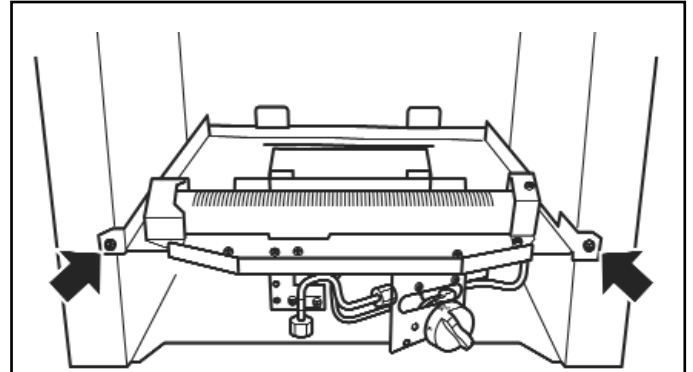

Figure 38. Burner attachment points
4. Detach the burner unit from the hotbox by removing two screws (See figure 38).